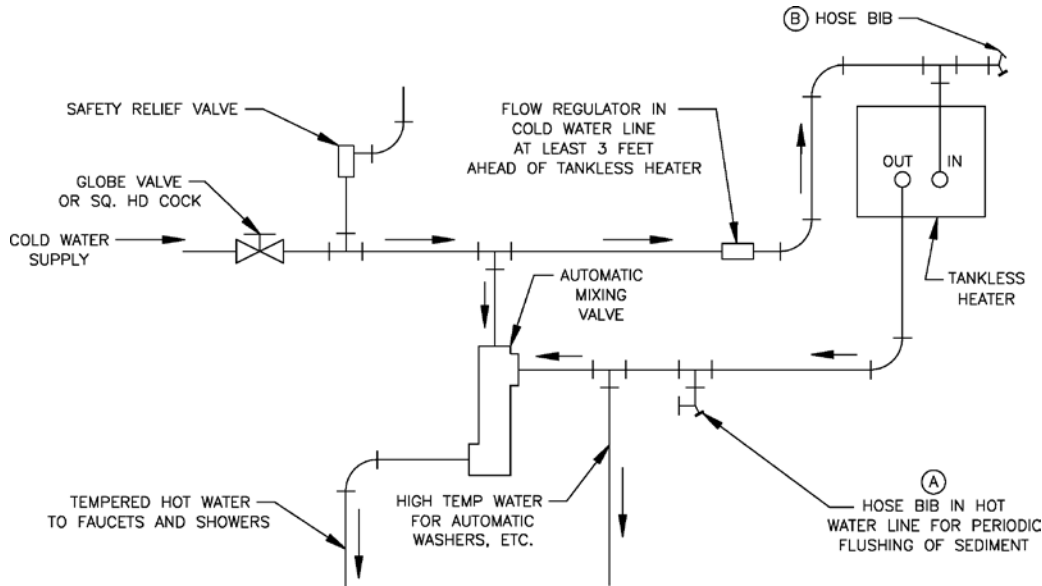

Figure 13: Schematic Tankless Heater Piping
- G. CONNECT TANKLESS HEATER PIPING AS SHOWN IN FIGURE 13.** See Table 1 for Tankless Heater Rating.
required by dishwashers and automatic washers is possible by piping the hot water from the heater prior to entering the mixing valve. The mixing valve should be "trapped" by installing it below the cold water inlet to heater to prevent lime formation in the valve. Refer to Figure 13.